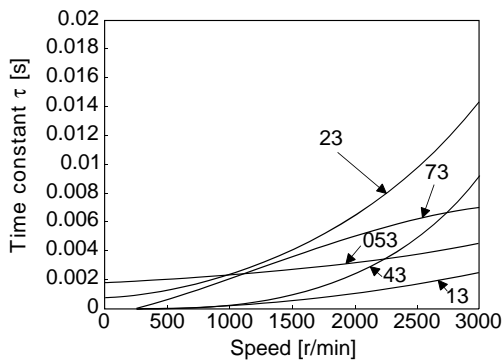
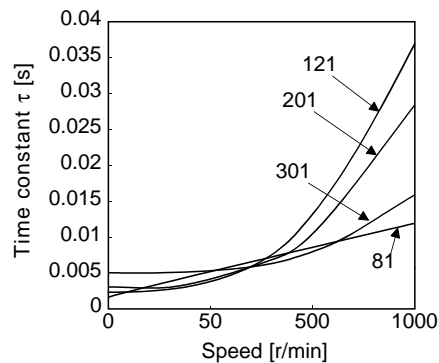

Fig. 9-5 HC-MF Dynamic Brake Time Constant
Fig. 9-6 HC-SF1000r/min Dynamic Brake Time Constant
When an alarm, emergency stop or power failure occurs, the dynamic brake is operated to bring the servo motor to a sudden stop. Fig. 9-5 shows the pattern in which the servo motor comes to a stop when the dynamic brake is operated. Use Equation 9-3 to calculate an approximate coasting distance to a stop. The dynamic brake time constant τ varies with the servo motor and machine operation speeds as indicated in Table 9-3 and as shown in Fig. 9-6 to Fig. 9-12.
- τ : Brake time constant (Fig. 9-6 to 9-12 • Table 9-3) [s]
- t_e : Delay time of control section (Fig. 9-5) [s]